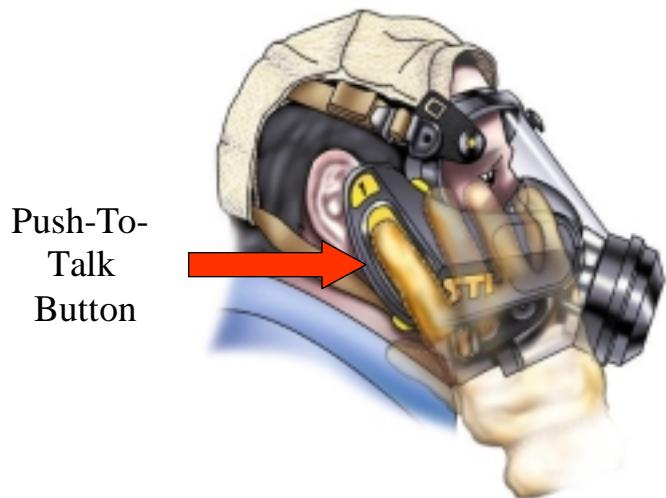

Figure 11
4. To communicate to others in your team simply **press and hold** the large yellow rubber Press-To-Talk button (See Figure 11). If the channel is clear you will hear a double beep “Beep, Beep” and the indicator light will illuminate. You will also be able to hear your own voice over your speaker, just like on a telephone.